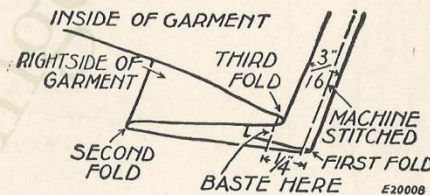

FIG. 252. PREPARATION OF MATERIAL FOR MAKING CIRCULAR INVISIBLE HEM WITH GATHERED EDGE
(SEE FIGS. 252 AND 254)
- d—Make **second fold** the depth of hem desired and hand baste $\frac{1}{4}$ " from upper edge of hem, as shown in Fig. 252.